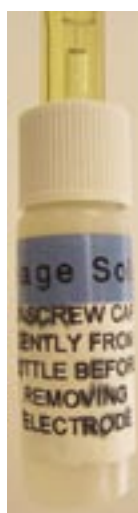

Figure 1 - Soaker bottle
- If possible store in a soaker bottle (see Figure 1) as it is possible to form an air lock if using a rubber cap, causing the electrode to dry out.